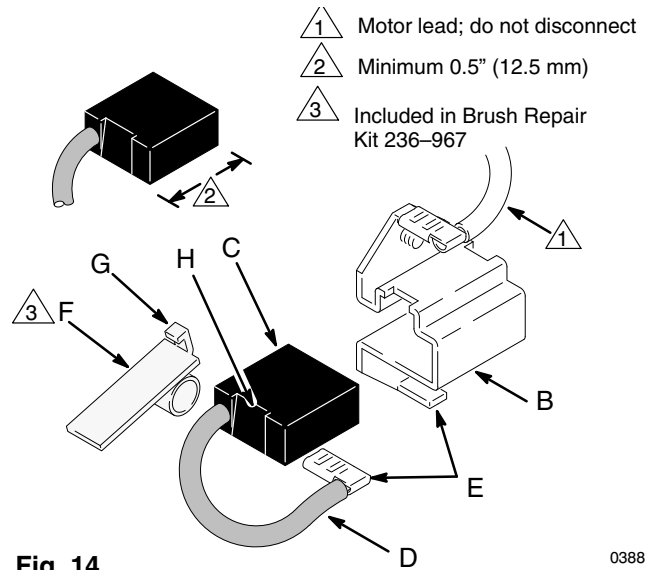

Fig. 14 03881
2. Push in the spring clip (F) and release its hook (G) from the brush holder (B). Pull out the spring clip. See Fig 14.
3. Slide off the brush lead terminal (E) off the blade connector. Remove the old brush (C). See Fig 14.